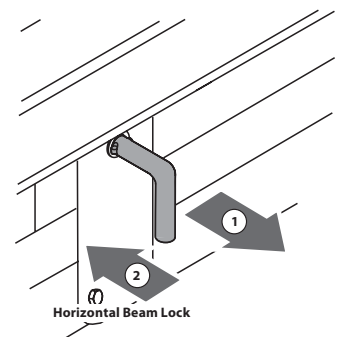

Figure 15
- b. The horizontal beam lock is self-locking. The spring loaded lock will snap into place when the beam is lowered into position. See Figure 15.